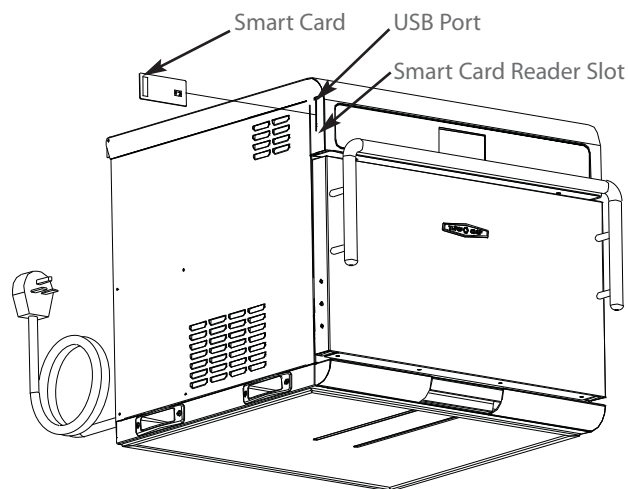

Figure 21: Inserting Smart Card/USB Device
1. Insert the source (smart card or USB - see Figure 21, page 18).
1. Insert the smart card (see Figure 21).